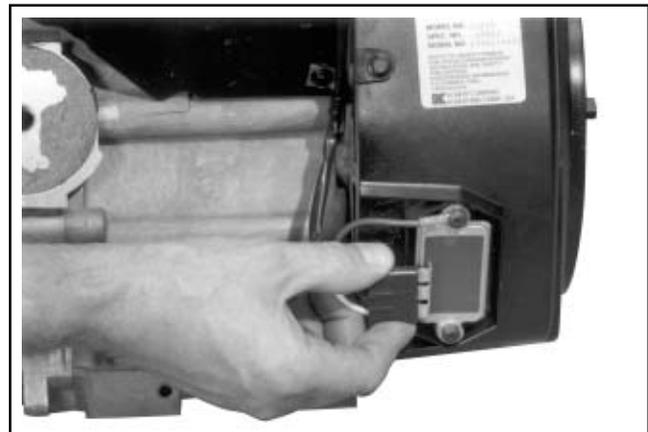

**Figure 9-26. Removing Electric Starter Motor.**
2. Remove the two hex. flange screws. See Figure 9-26.